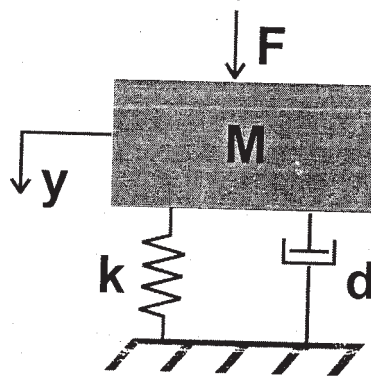

Figure 2
- Q7) a)** For the system in figure 2, Assume  $M = \text{mass} = 1\text{kg}$ ,  $k = \text{stiffness} = 2\text{ N/m}$  and  $d = \text{damping} = 0.5\text{ Ns/m}$ . Also,  $F = \text{force input in N}$  and  $y = \text{displacement output in m}$ . [10]